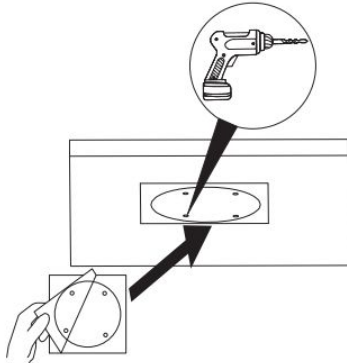

Figure 2-1
**Step 1** Remove the installation map from the packaging and place in the installation surface. Drill out the appropriate mounting holes and cable exit, if necessary after setting the position map. See Figure 2-1.